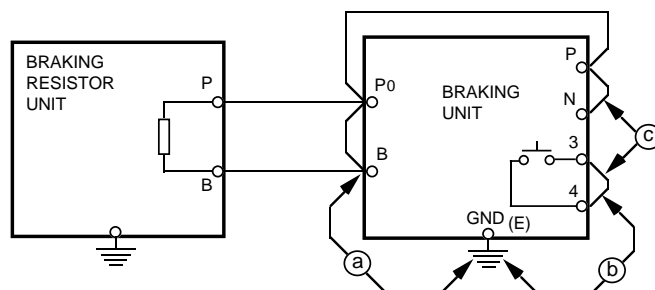

Figure A7-6. Megger Testing Set-up
- b. Connect common leads (jumpers) across Braking Unit terminals N, P, Po, and B, and across 3 & 4, as shown in Figure A7-6.
- c. Measure the insulation resistance at points a, b, and c in Figure A7-6 with the megger.